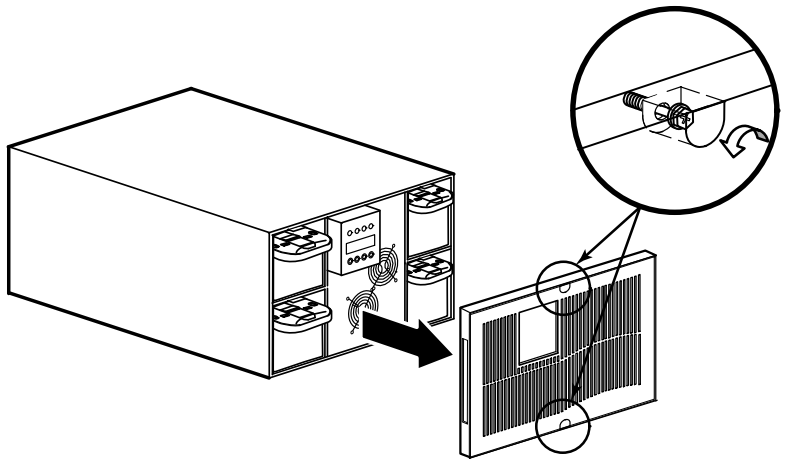

Figure 44. Removing the UPS Front Cover
1. Remove the UPS front cover (see Figure 44).